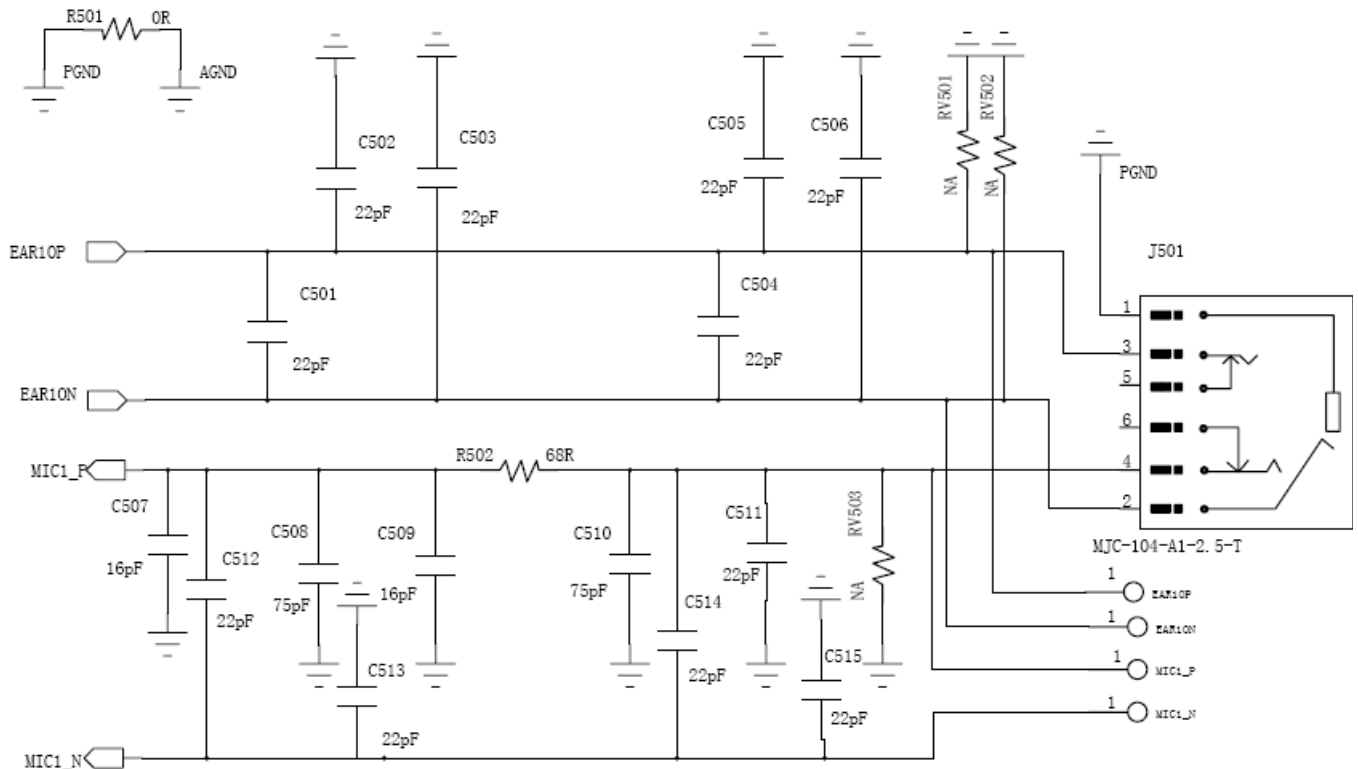

Figure 2-10 The reference circuit of audio interface
The reference circuit of audio interface is shown in figure 2-10.
- 2) It is recommended to use the filter capacitor or filter circuit to reduce inter frequency interference and improve audio quality. Just like what is shown in Figure 2-10.
- 3) To avoid static electricity, it is recommended to use the ESD protection device just like the varistors RV501, RV502 and RV503 in Figure 2-10.
- 4) It requires to connect audio analog signal ground with the general digital circuit ground, magnetic bead or zero ohm resistance can be used just like R501 in Figure 2-10.